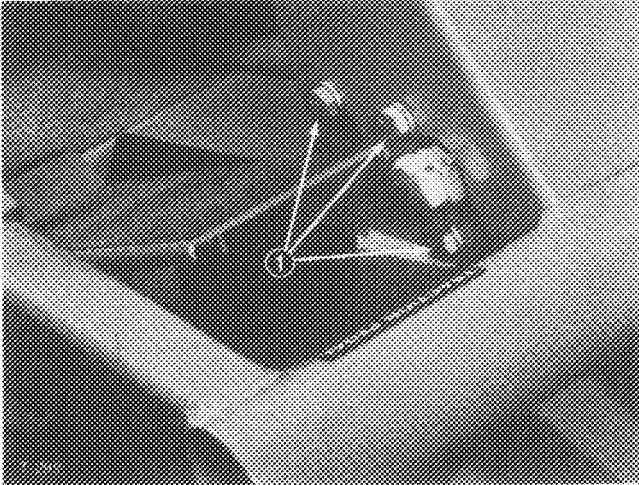

Figure 1
1. Pivot steering post upward until holes in steering tower line up with holes in side of steering gear. Retain steering gear to steering tower with two capscrews (3/8 - 16 x 1 in. - 25 mm) and lockwashers (3/8 in. - 10 mm - med), but do not tighten the capscrews (Fig. 1).
5. Tighten the three capscrews holding steering gear to side of steering tower (Fig. 1). Also install the knob on parking brake rod.